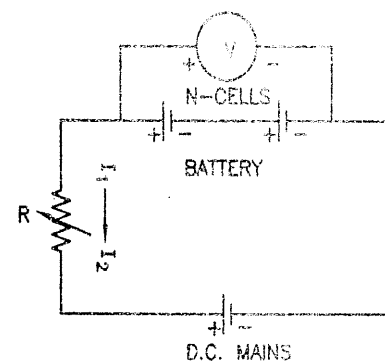

FIG. 5.23 : CONSTANT VOLTAGE METHOD OF CHARGING A BATTERY
- In this method, the supply voltage for charging of battery is kept constant. A fixed resistance R is connected in series with the battery as shown in Fig. 5.23 to limit the current supplied to the battery in the beginning.